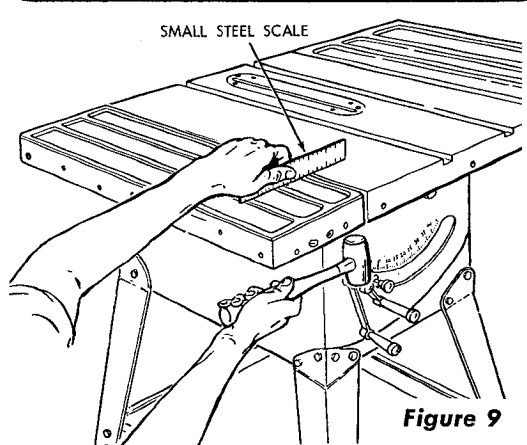

Figure 9
- (2) Place a small steel scale across saw table edge and table extensions edge and, using the rubber mallet, tap extensions slightly up or down (or forward and rearward) until the surface of each table extension is even with surface of table top and front edge of table. (See figure 9.) Tighten nuts on all attaching bolts securely and recheck to make sure tightening nuts did not permit extension to move.